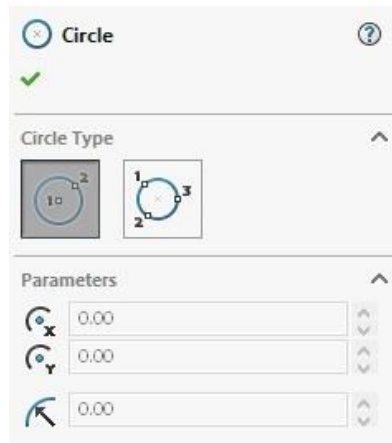

Figure 3-16 *The Circle PropertyManager*
9. Choose the **Circle** tool from the **Circle** flyout in the **Sketch CommandManager**; the **Circle PropertyManager** is displayed, as shown in Figure 3-16.